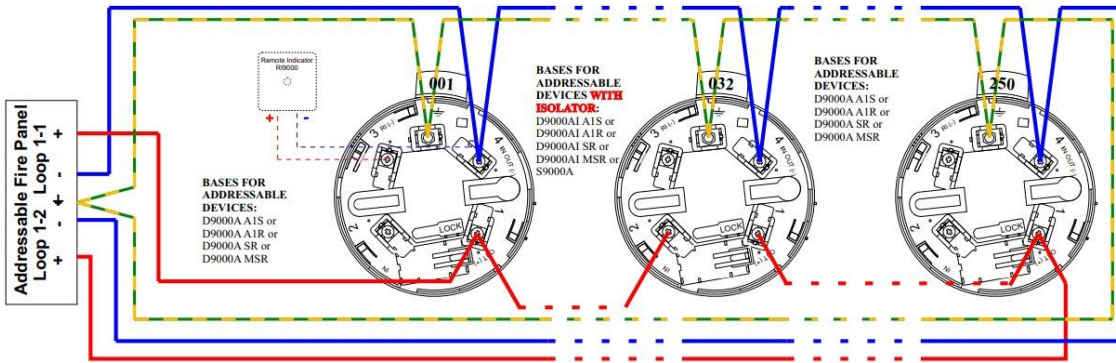

Fig. 2
- connect the electrical cables according to the attached diagram (Fig. 2);